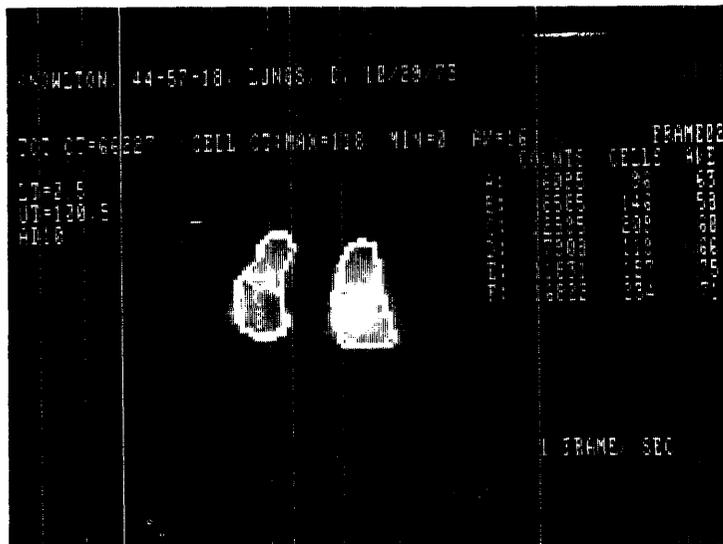

FIGURE 21. 6 ROIs marked over the lungs
- 2) display an image of the lungs, enter irregular regions of interest (IR).
- 4) mark up to 6 regions over the right lung (the number of regions for each lung should be equal) (Figure 21).